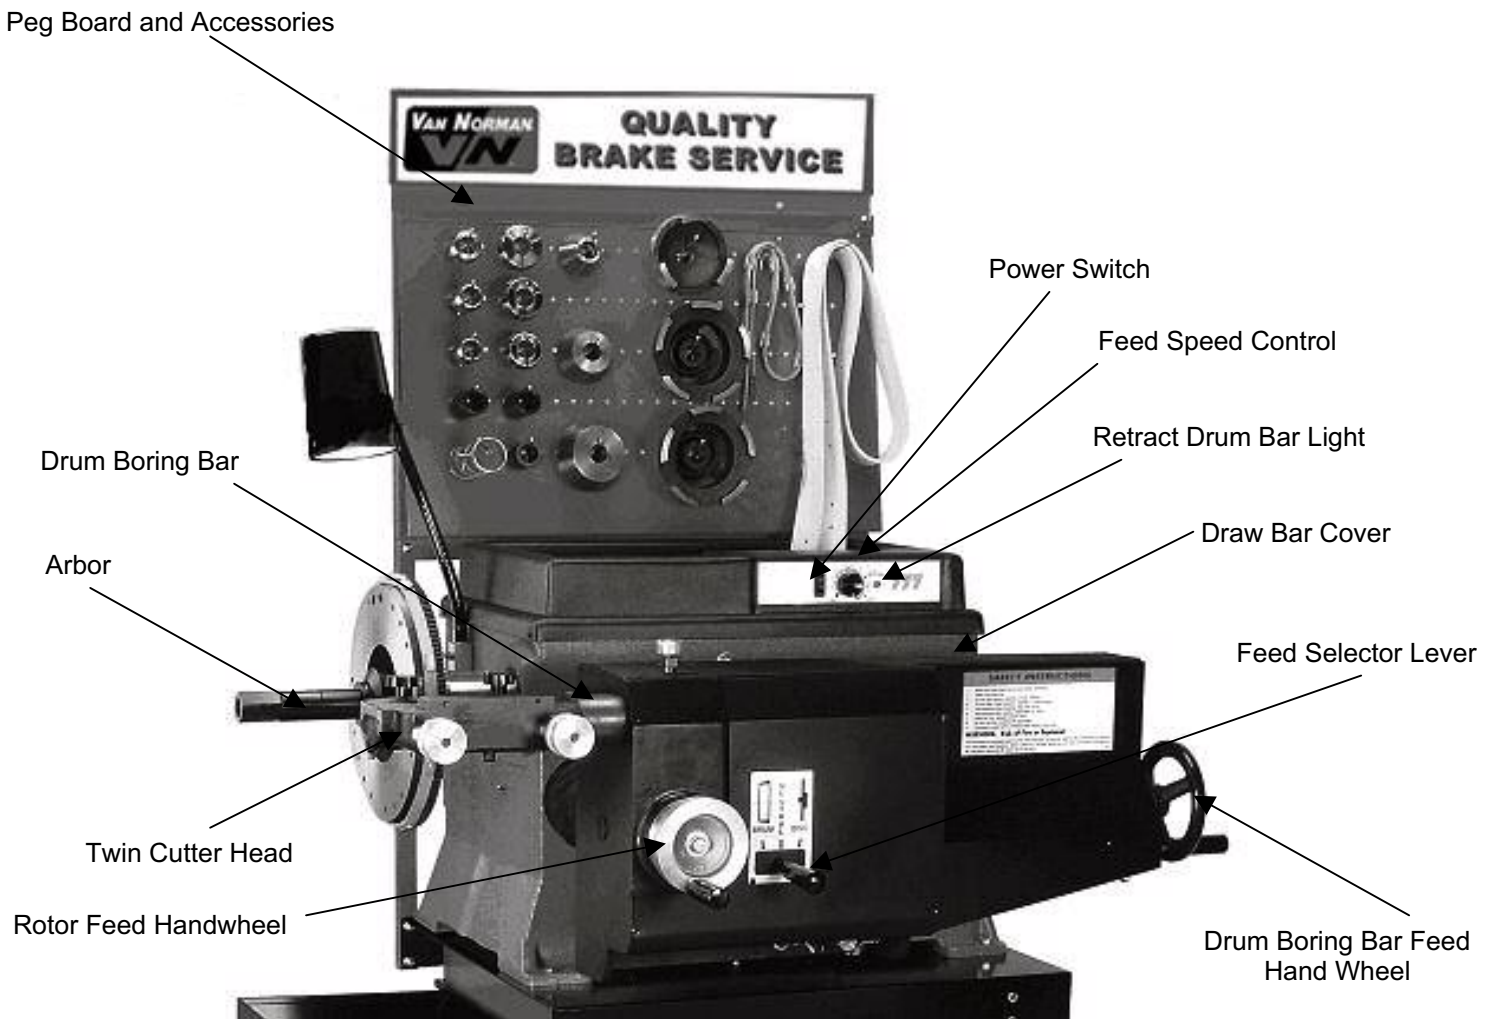

Figure 1
1. Loosen the top screw in the draw bar cover and swing the cover down to expose the draw bar nut. (Refer to Figure 1)